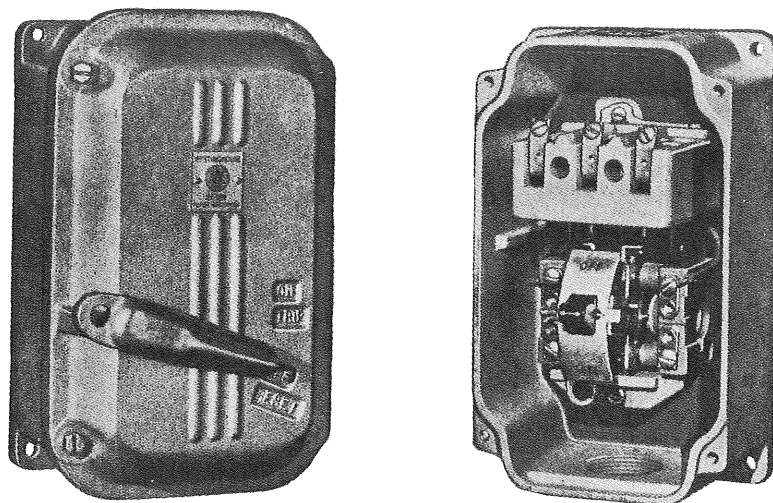

FIG. 10—WATER-TIGHT "DE-ION" MOTOR WATCHMAN
**Water-tight and dust-tight** (Type W, Fig. 10) enclosures are cast iron with tapped conduit holes and with a rubber gasket between cover and box. The